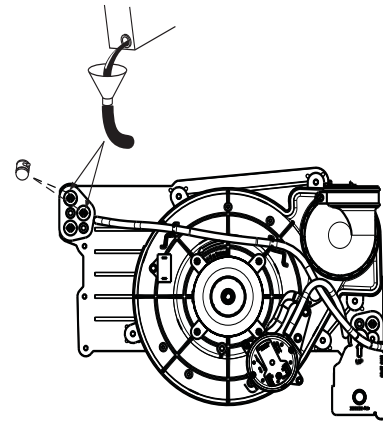

Fig. 58 – Priming Condensate Trap
1. Remove upper and middle collector box drain plugs opposite of the condensate trap. See Fig. 58.